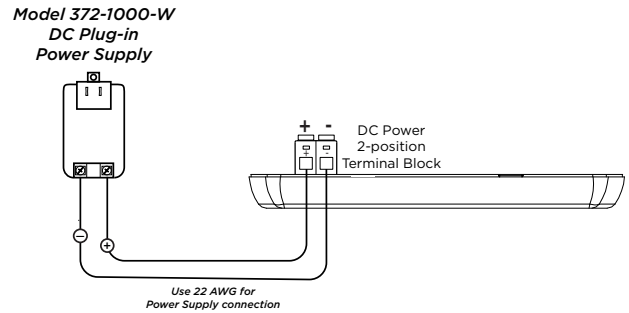

Figure 2: PCB Side View
2. Connect the DC terminal (-) to the negative terminal on the power supply. See Figure 2.